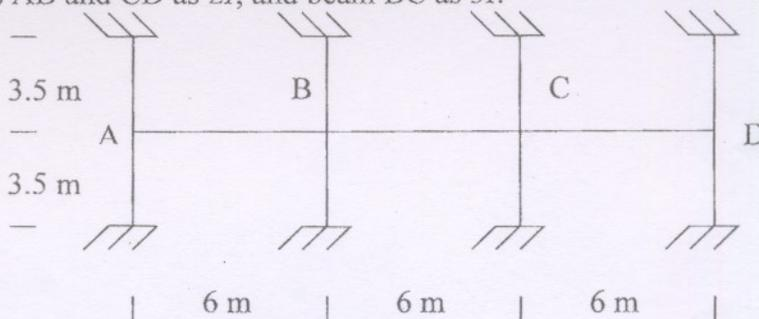

Fig. 1
11. Design a semi-circular curved beam, in plan, supported on three equally spaced columns on a 14 m diameter curve for an all inclusive exposed u.d.l. of 16 kN/m. Use M25 grade concrete and Fe 415 grade steel. Sketch the reinforcement details. (10)
12. Design a simply supported deep beam to carry an exposed load (including self weight) of 350 kN/m. Take clear span as 5 m; overall depth as 3.5 m; and width of supports as 600 mm. Use M20 grade concrete and Fe 415 grade steel. Draw the reinforcement details. (10)
13. A hinge based reinforced concrete portal frame is of 9 m span and 3.3 m height and carries an exposed load of 30 kN/m. Design the floor beams for the frame and sketch the reinforcement details. Use M25 grade concrete and Fe 500 grade steel. (10)
14. An R.C. portal frame, hinged at its bases, is of span 8 m and height 5 m. The frame carries an all inclusive u.d.l. of 35 kN/m. Design the slab and footing for the frame. Sketch the reinforcement details. Use M30 grade concrete and Fe 500 grade steel. (10)
15. The substitute frame at a typical floor level of a multi-storied building frame is shown in Fig. 1. Calculate the maximum mid-span moment between B and C. Take DL as 15 kN/m and LL as 30 kN/m. Assume the moment of inertia of all columns as $3I$; beams AB and CD as $2I$; and beam BC as $3I$. (10)